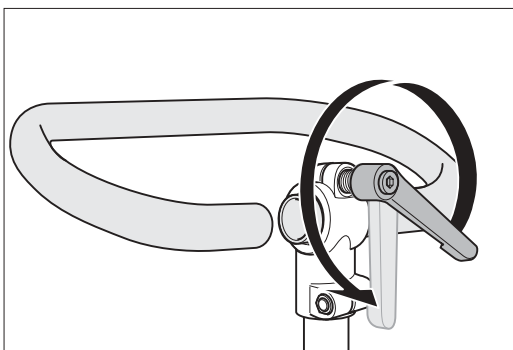

Fig. 14: Undoing the clamping lever on the extension.
- 1 Undo the clamping lever at the upper end of the extension (Fig. 14).